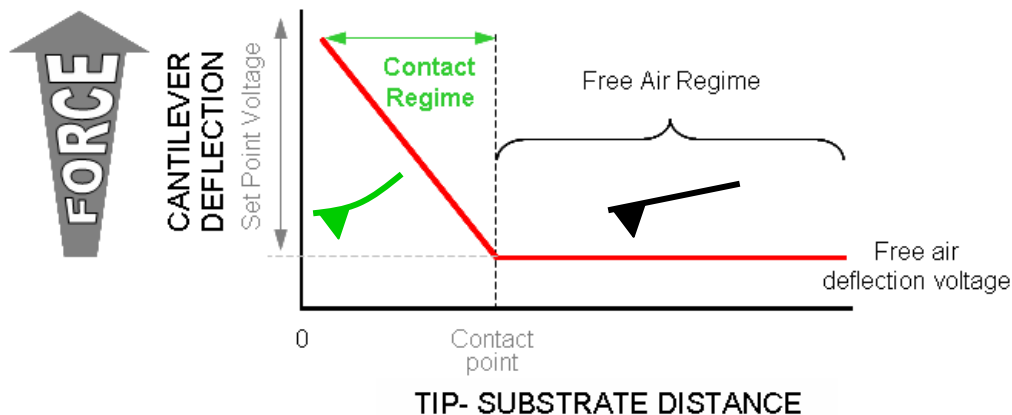

Figure 8.3: Qualitative depiction of Cantilever Deflection vs. Tip-Substrate separation.
▪ To conceptually help aid the selection of a Set Point voltage, a qualitative depiction of cantilever deflection vs. tip-substrate distance is shown in Figure 8.3. The contact point is when the Set Point deflection voltage is equal to the cantilever Set Point deflection value- this is when the cantilever starts to experience positive deflection due to the applied force from the piezo. Low set point forces will be slightly more positive Set Point voltages than the free air deflection voltage, while larger forces are much more positive than the free air deflection voltage. To know exactly how much force is being applied during imaging or a manipulation, the cantilever spring constant must be determined- See Chapter 9.
- ✓ Select a Set Point voltage (force): low Set Point voltage (force) is slightly more positive (in volts) than the value of the 'Free Air' Deflection (in Volts) in the S&D meter; higher Set Point voltage (force) are much more positive than the free air deflection voltage value. *Low set point forces avoid truncating the tip's apex. Refer to Figures 8.3. & 8.4.*